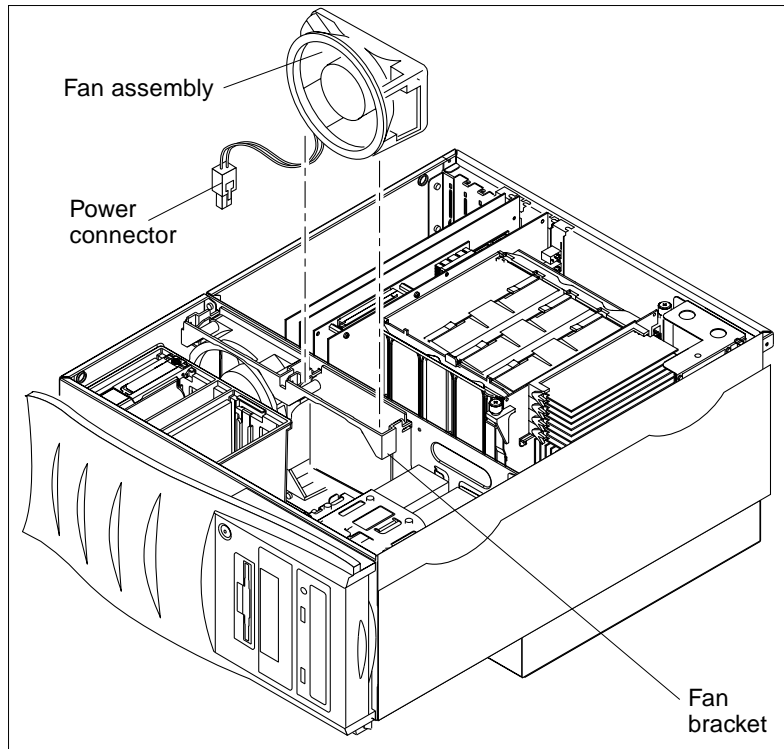

FIGURE 7-10 Removing and Replacing a Fan Assembly
4. Remove a fan assembly as follows (FIGURE 7-10):
1. **Replace a fan assembly as follows (FIGURE 7-10):**